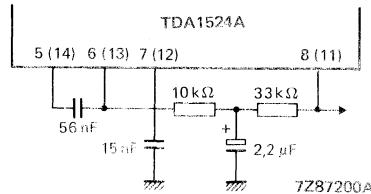

Fig. 3 D.C. feedback with filter network for improved signal handling.
D.C. output levels (pins 8 and 11) under all control voltage conditions with d.c. feedback (Fig. 3)
Signal handling with d.c. feedback (Fig. 3)